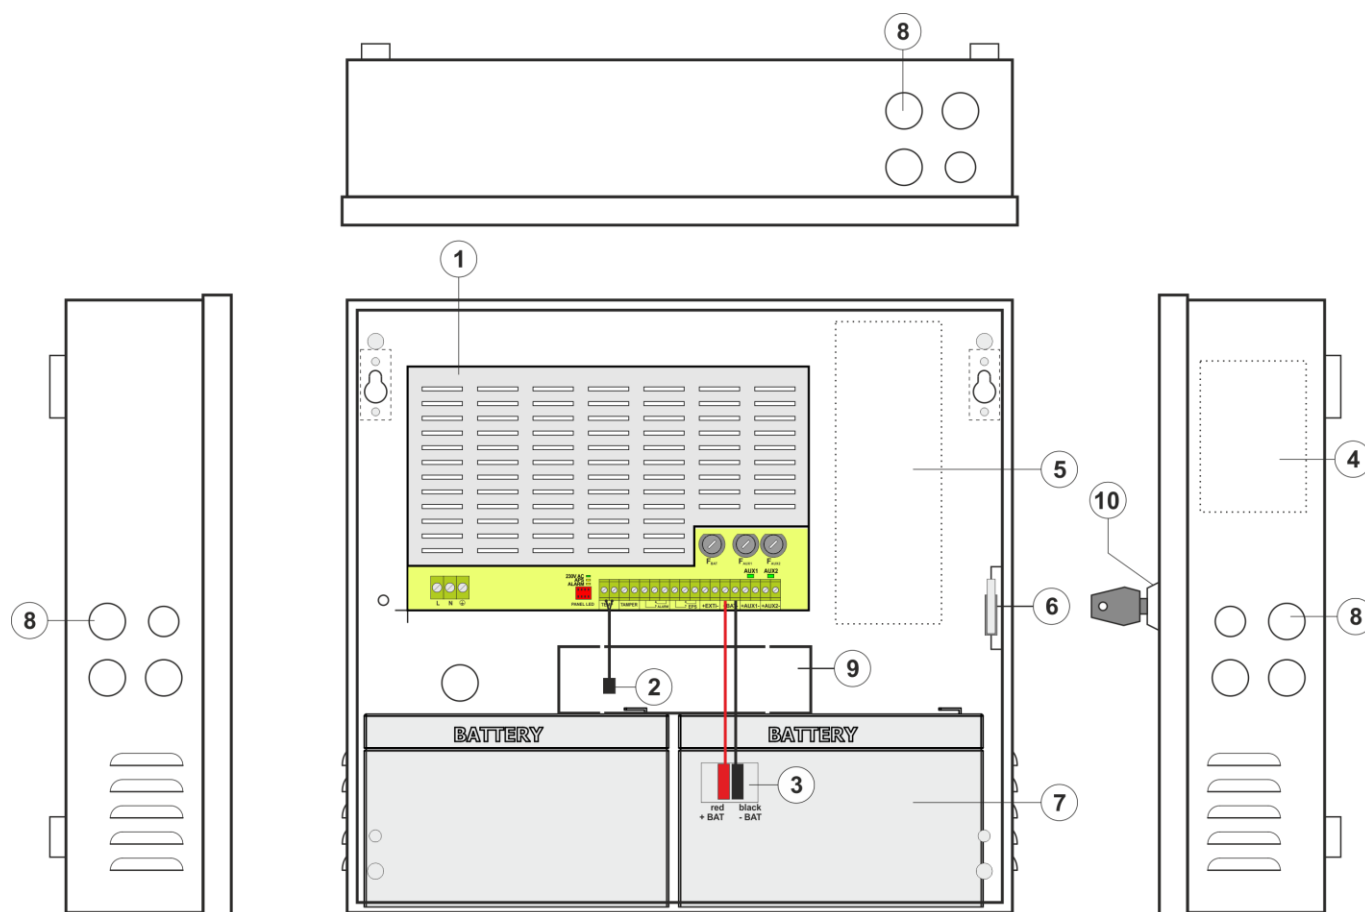

Fig. 3. View of power supply based on EN54C-2A7LCD
Table 2. Elements of PSU (Fig. 3).
5. Install the batteries in a designated area of the enclosure (see Fig. 3). Connect the batteries with the PSU paying special attention to the correct polarity. Batteries must be connected in series using the special cable (included). Attach the temperature sensor to any of the batteries with mounting tape (included). Place the temperature sensor between the batteries.